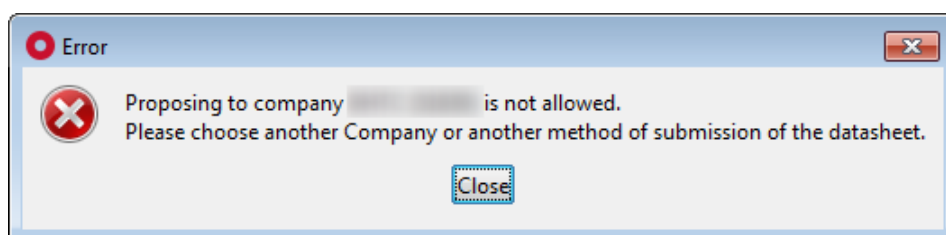

Figure 253 Error message shown if selected method of submission is not allowed for selected customer
- If **not**, the error message will be shown to the user and the MDS bulk transfer process will not be started (see **Figure 253**)